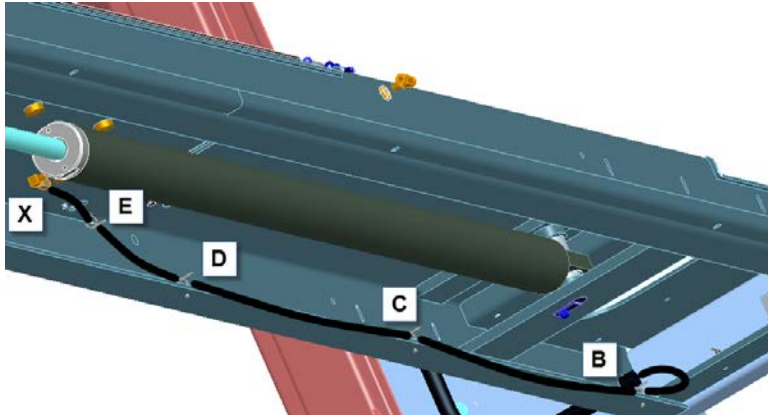

Figure 44
- Route hydraulic hose through ties “B”, “C”, “D”, “E” and fasten to the flow control “X” on the hydraulic cylinder (**Fig.44**)